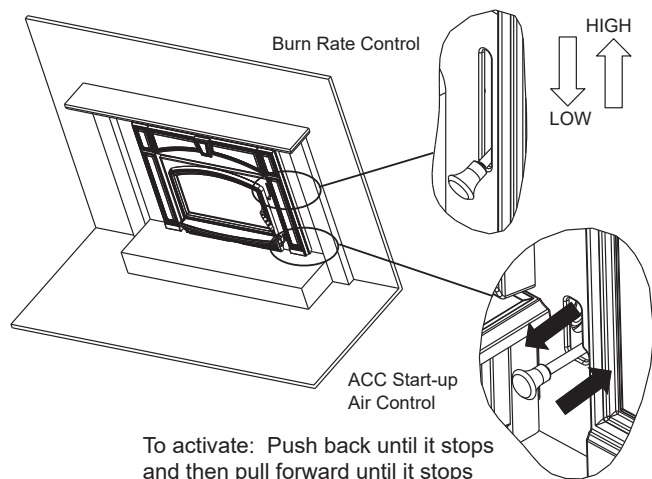

Figure 13.1 - Start-up and Burn Rate Air Controls
The next stage of burning, the secondary stage, is the period when the wood gives off flammable gases which burn above the fuel with bright flames. During this stage of burning it is very important that the flames be maintained and not allowed to go out. This will ensure the cleanest possible fire. If the flames tend to go out, it is set too low for your burning conditions. The air control located at the upper right hand corner is used to adjust for burn rates. This is called the Burn Rate Air Control (**Figure 13.1 on page 13**).
- Push the Start-Up Air Control all the way back until it stops and then pull forward to the front of the appliance until it stops (**Figure 13.1**).
- The fire is now controlled by the air supplied by the Burn Rate Air Control (**Figure 13.1**).
- When the control is raised all the way up it is on the High setting and when pushed all the down it is on the Low setting (**Figure 13.1**).